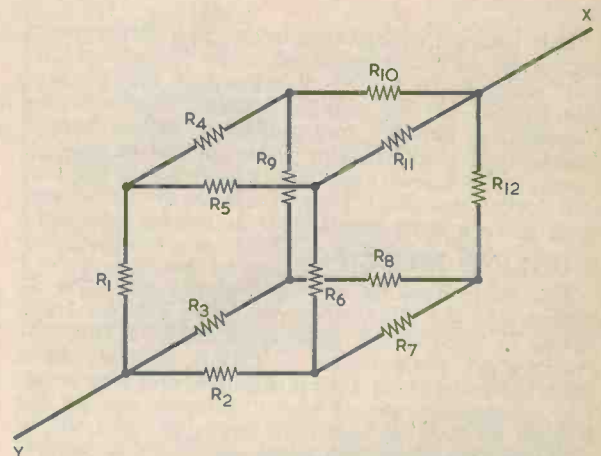

Fig. 3. A cube is made up of equal value resistors
7. Fig. 3 illustrates a venerable puzzle which continues, nevertheless, to have traumatic effects amongst those who have not yet encountered it. The cube is made up of 12 resistors, and each resistor has a value of  $1\Omega$ . What is the resistance between the opposite corners X and Y?